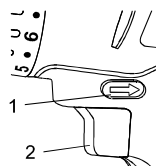

Fig. 5
The forward/reverse switch (1) is conveniently mounted above the trigger switch (2) (Fig.5). To make the drill rotate clockwise (for drilling) push the forward / reverse switch to the left. To make the drill rotate counter-clockwise for removing screws, push the forward / reverse switch to the right.